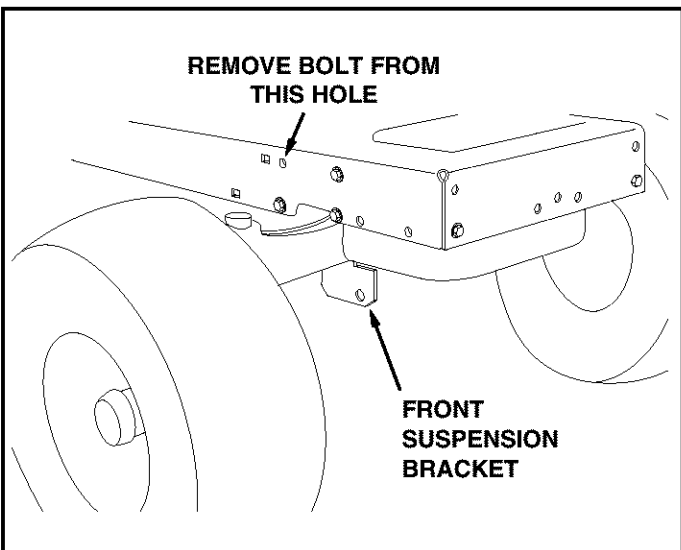

FIGURE 4 RIGHT SIDE VIEW
- Remove the bolt from the hole on each side of the tractor frame as shown in figure 4.